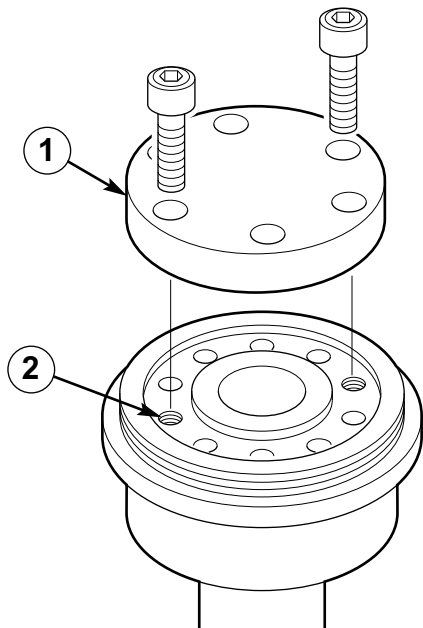

Figure 46— Attach pusher block to bearing block. (1) Pusher Block, (2) Tapped Hole.
2. **If bearing blocks need to be replaced** (see “Inspection”, page 42), use tap to thread two (2) opposing holes in each bearing block, 3/8-16 for the 22 knife blocks and 7/16-14 for all other blocks.
3. **Using the tapped set of holes,** attach the pusher block to one of the bearing blocks (Figure 46).